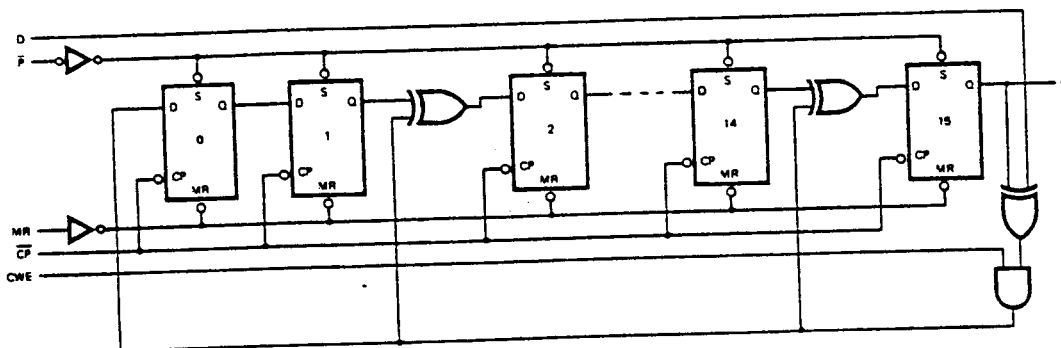

Fig. 1
The 9401 consists of a 16-bit register, a Read Only Memory (ROM) and associated control circuitry as shown in the block diagram. The polynomial control code presented at inputs  $S_0$ ,  $S_1$  and  $S_2$  is decoded by the ROM, selecting the desired polynomial by establishing shift mode operation on the register with Exclusive OR gates at appropriate inputs. To generate the check bits, the data stream is entered via the Data inputs (D), using the HIGH-to-LOW transition of the Clock input ( $\overline{CP}$ ). This data is gated with the most significant output (Q) of the register, and controls the Exclusive OR gates (Figure 1). The Check Word Enable (CWE) must be held HIGH while the data is being entered. After the last data bit is entered, the CWE is brought LOW and the check bits are shifted out of the register and appended to the data bits using external gating (Figure 2).